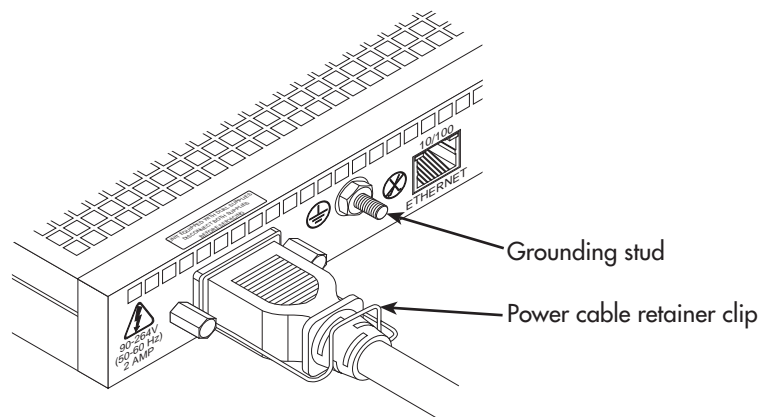

Figure 7. Power cable retainer clip
2. Rotate the power cable retainer clip so it secures the power cable plug in the IEC-320 connector as shown in figure 7.
2. Install the ground wire between the grounding stud (see figure 7) and the grounding source.